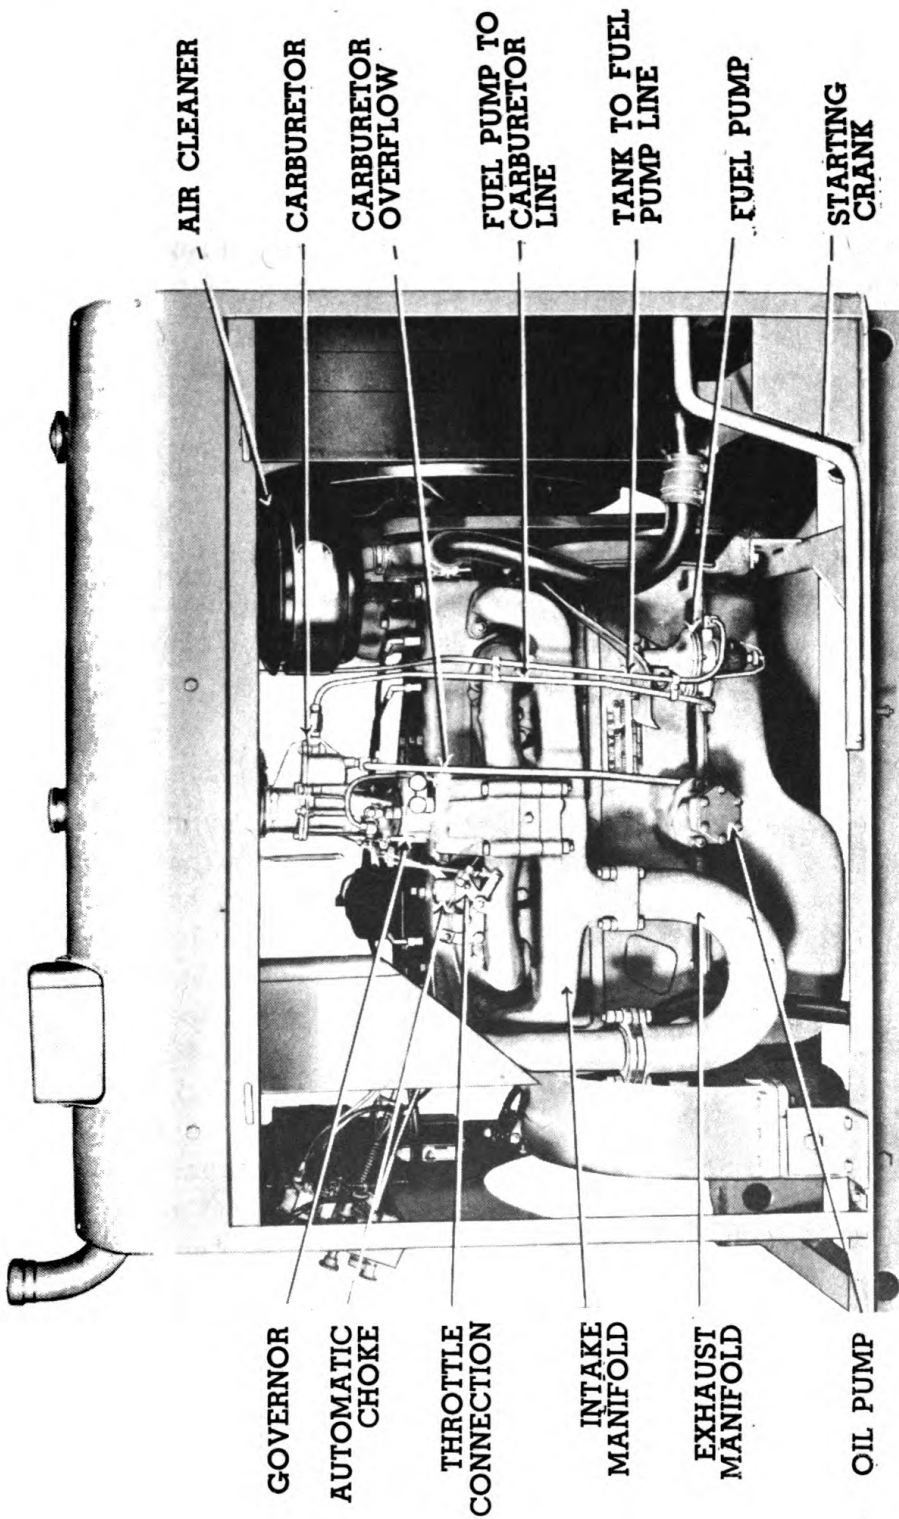

Figure 80—Manifold Side View of Engine
Disconnect the fuel tube at the carburetor connection. Disconnect the carburetor control rod from the carburetor throttle lever and the rod from automatic choke. Remove the carburetor attaching stud nuts and remove the carburetor. (Figure 80.)
79. REMOVE OIL PUMP—(Figure 80.)
81. REMOVE OIL PAN—(Figure 80.)
83. REMOVE THERMOSTAT AND OIL PRESSURE RELIEF VALVE—(Figure 80.)